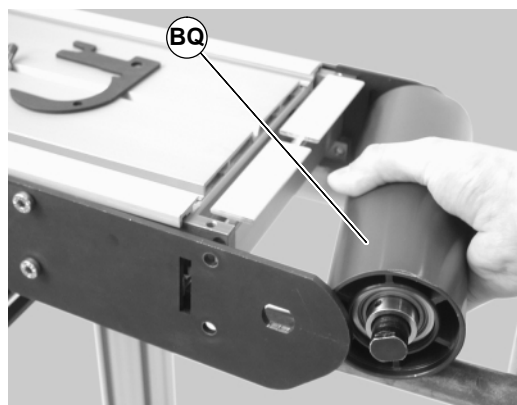

Figure 49
4. Slide the idler pulley assembly (BQ of Figure 49) out of the headplate on the opposite side.